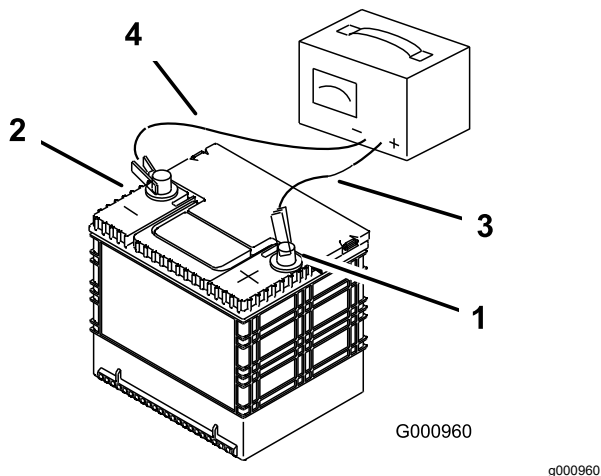

Figure 49
2. When the battery is fully charged, unplug the charger from the electrical outlet, then disconnect the charger leads from the battery posts (Figure 49).